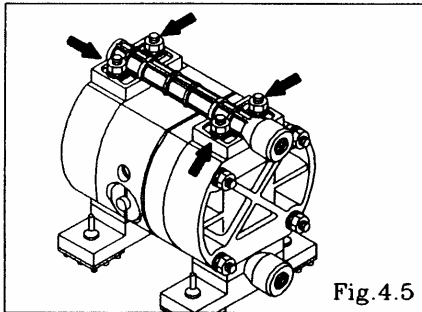

Fig.4.5
See [9.Exploded View] on after p.11. (Fig. 4.5, 4.6, 4.7 and 4.8 show the NDP-5 FPT.)
- Remove the 4 retainer nuts from the out manifold, and remove the out manifold. [Fig.4.5]